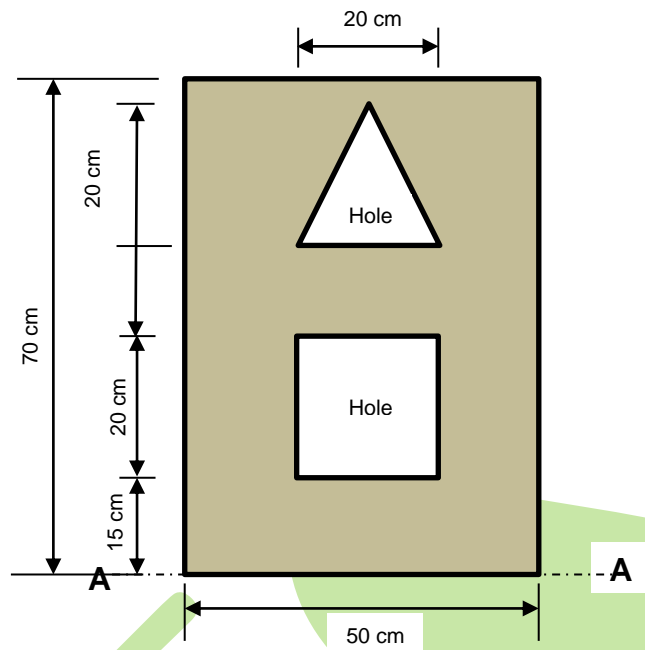

FIGURE 3
- 3.3 Determine the nature and magnitude of each member in the framework and tabulate the results neatly. (7)
- 4.1 The sketch in FIGURE 3, DIAGRAM SHEET 2 (attached), shows a cross section of a structure used to support an overhead pulley system.